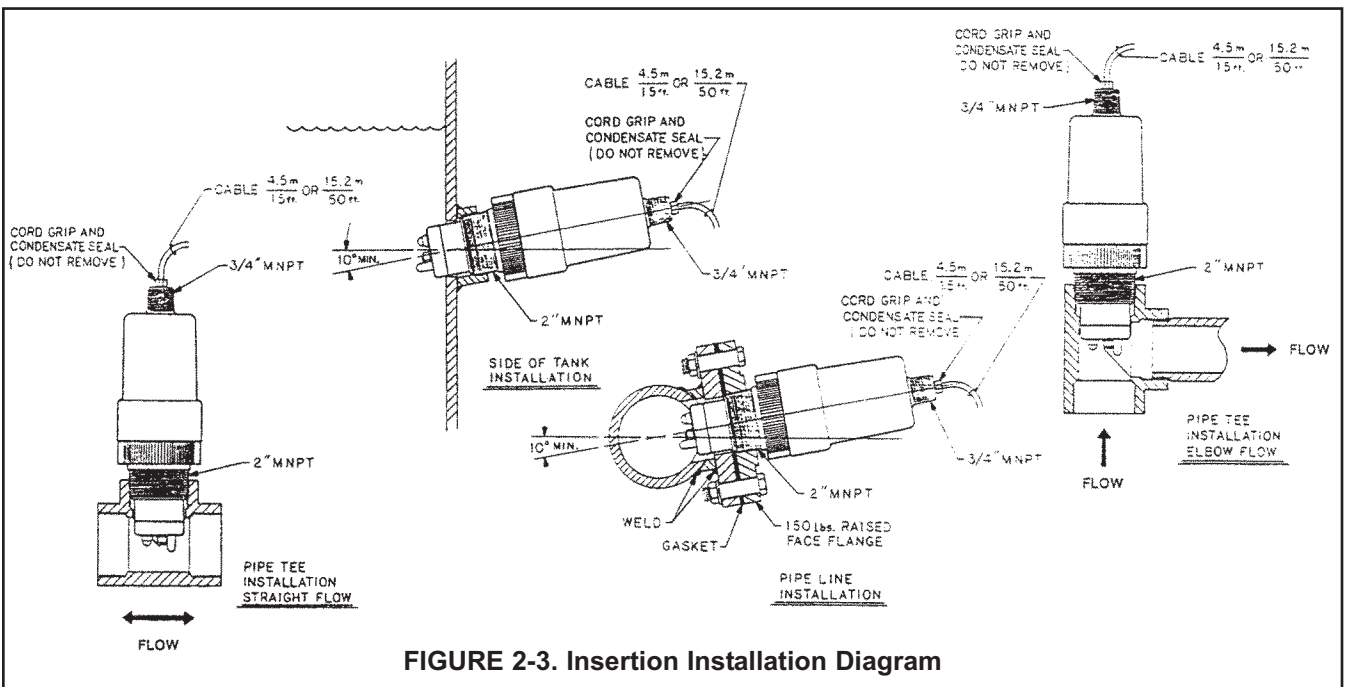

FIGURE 2-3. Insertion Installation Diagram
**2.3 INSERTION INSTALLATION (Code 00).** To install the sensor in the side of a tank, in a pipeline, or in a pipe "tee", proceed as follows (see Figure 2-3):
1. Use TEFLON tape on pipe joint, and install sensor as shown in Figure 2-3.